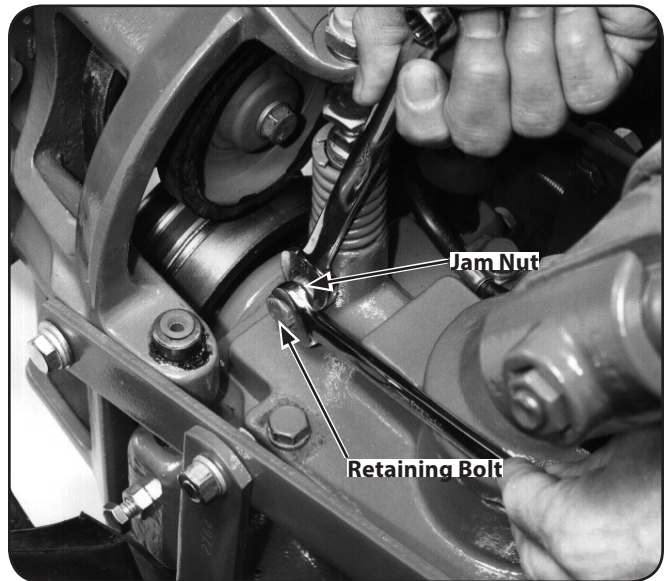

Figure 6-22
2. On the left side of the tiller, put a $\frac{1}{2}$ " wrench on the plunger retaining bolt and another $\frac{1}{2}$ " wrench on the jam nut next to it. See Figure 6-22.
9. Hold the plunger retaining bolt steady with a wrench while tightening the jam nut against the side of the plunger housing. See Figure 6-22.